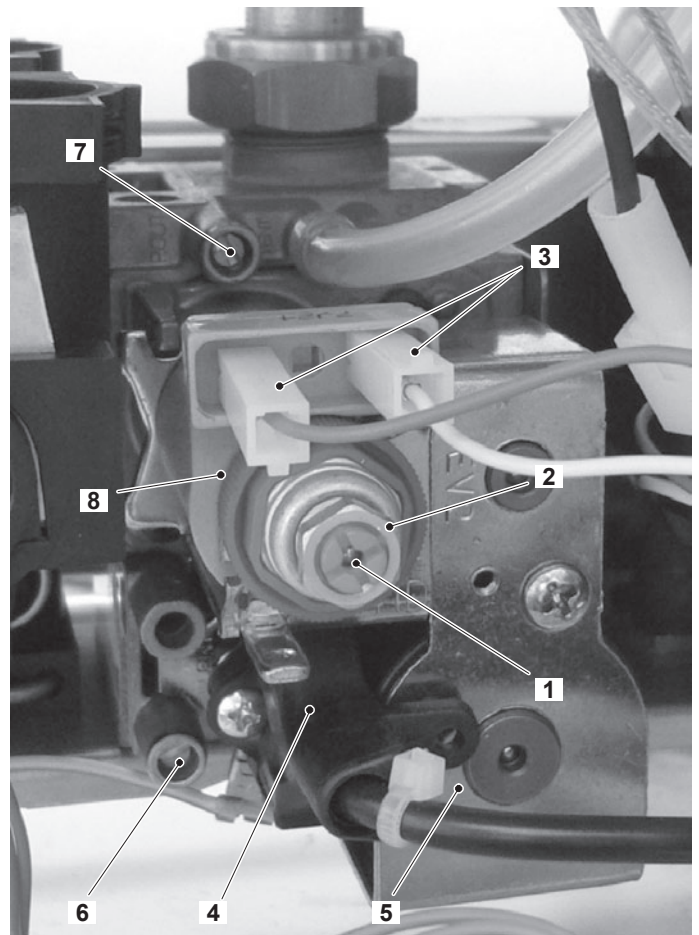

Figure 11.2
11.2 Nomenclature of the parts - (Figure 11.2)
- 2 Open the gas valve inlet pressure test point (6 in Figure 11.2) at the valve input, connect a suitable pressure gauge and check the gas pressure of the supply network.
- 4 Open the gas valve outlet pressure test point (7 in Figure 11.2) and connect the gauge;
- 7 Rotate the maximum gas pressure adjustment (2 in Figure 11.2) until you obtain the required pressure (by rotating clockwise the pressure increases).
- 8 Turn the boiler off and disconnect one of the two connectors (3 in Figure 11.2).
- 9 Start the boiler and rotate the minimum gas pressure adjustment (1 in Figure 11.2) until you obtain the required pressure (by rotating clockwise the pressure increases).